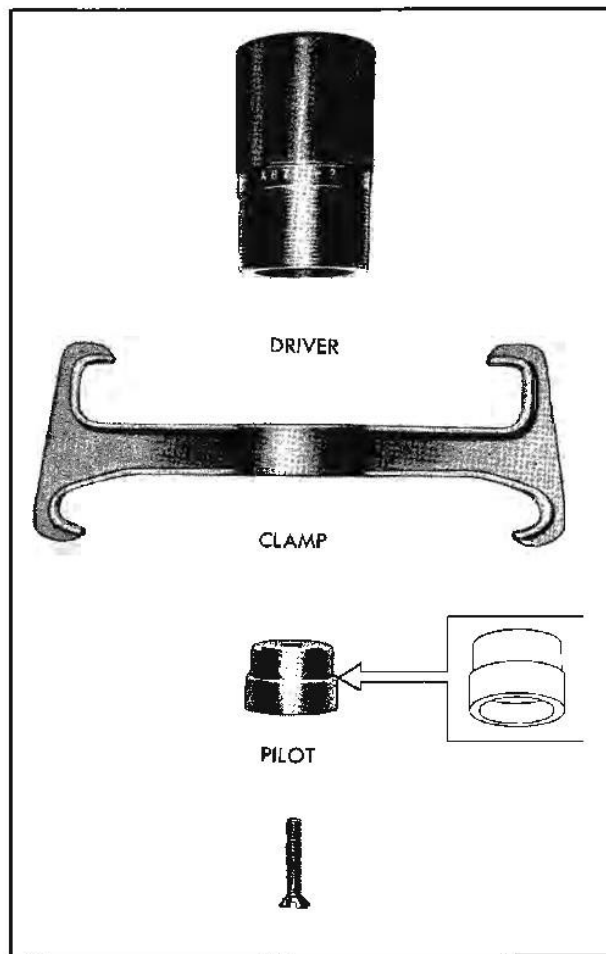

Fig. 6-41 Harmonic Balancer Installer
2. Attach balancer installer tool X-8792 (Fig. 6-41) to balancer (Fig. 6-42).